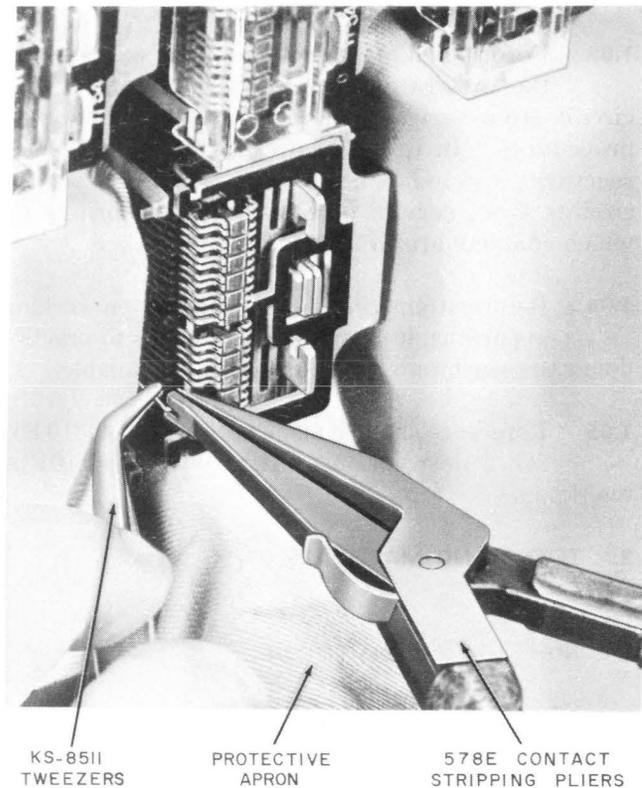

Fig. 1—Removing Contact From Movable Twin Spring
(2) With the right hand, place the end of the KS-6320 orange stick on the edge of the card in line with the fixed contacts. Raise the spring with the spring lifter and, at the same time, press the card downward with the orange stick. When the spring clears the top of the card, move it toward the left so it is free of the card. Withdraw the spring lifter.
(3) Disengage the lower leg of the spring in the same manner, except use the opposite end of the spring lifter. Roll this end of the lifter over the top edge of the leg, and push downward with the lifter while pressing upward with the orange stick against the bottom edge of the card. After both legs of the balancing spring are disengaged, remove the blocking tool. Figure 1 shows the balancing spring legs disengaged from the card.